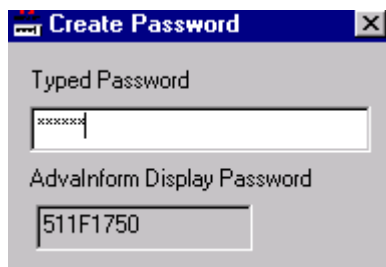

Figure 429. Password Key
2. Enter the new password in the **Typed Password** field. The encrypted password key is displayed in the **AdvaInform Display Password** field, Figure 429.